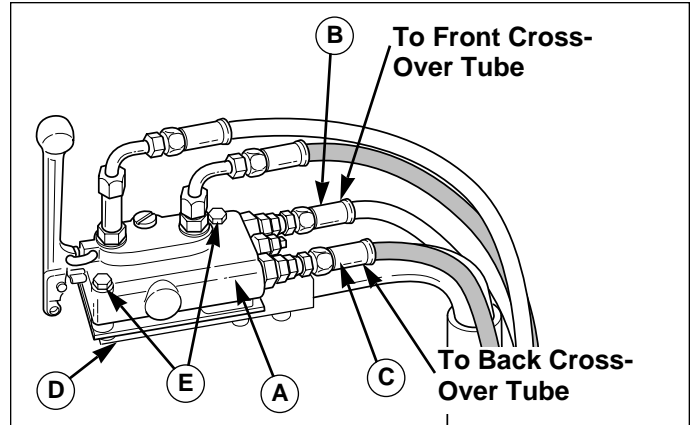
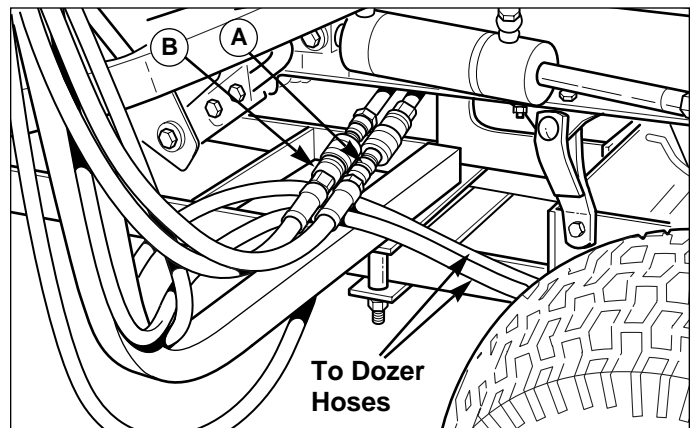

Figure 27. Control Valve
Figure 28. Cross-Over Tubes
- Mount the control valve (A, Figure 27) to the support arm (D) using two 1/4-20 x 1-3/4" taptite screws (E).
- Using the 23/32" x 40" hose with the male quick connector (B, Figure 27), connect the IN port of the control valve (A) to the front cross-over tube (A, Figure 28).
- Using the 23/32" x 40" hose with the female quick connector (C, Figure 27), connect the OUT port of the control valve (A) to the back cross-over tube (B, Figure 28).